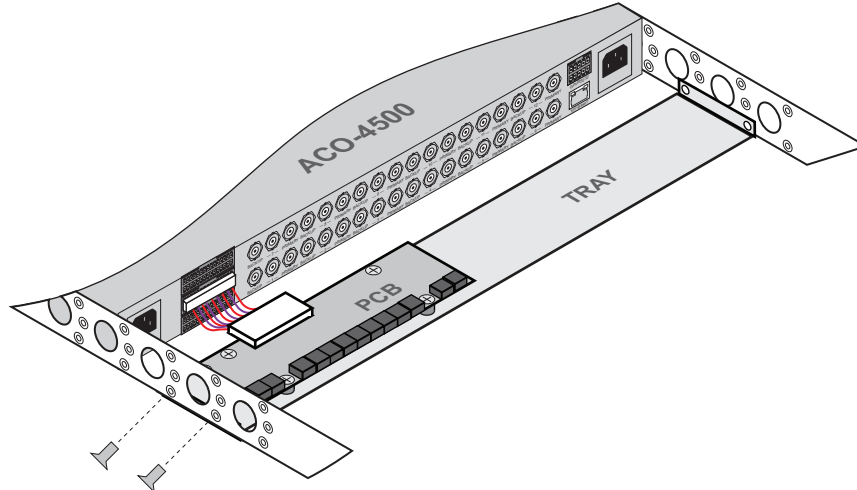

Figure 4.6 Connecting the Breakout PCB to the ACO-4500 Rear Panel
2. Connect the other end of the same Interface Cable to the middle 30-pin Connector on the ACO-4500 rear panel. Refer to **Figure 4.6**.